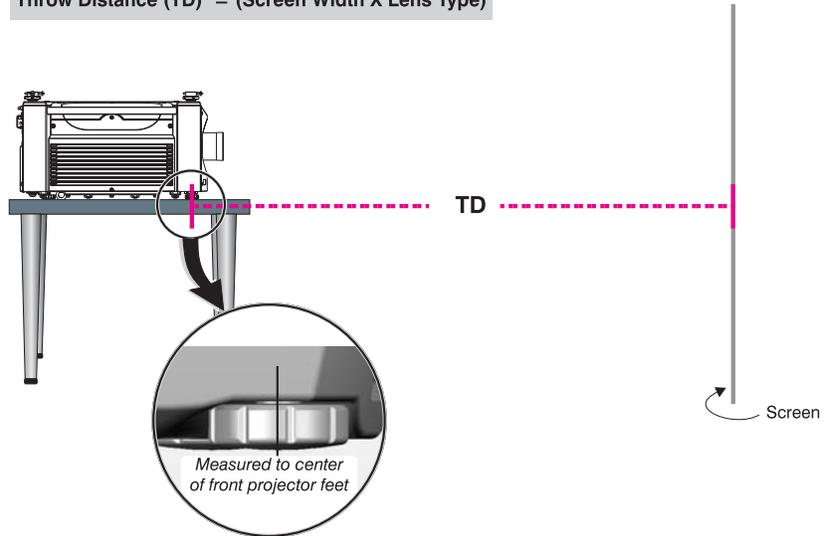

Figure 2.19. Estimating Throw Distance (SEE APPENDIX D)
For any installation, an accurate throw distance (TD) must be determined in order for the image to be of the right size for your screen—the farther the projector is from the screen, the larger the image. Throw distance is the distance between the projector’s front feet axes and the screen (Figure 2.19), and is roughly equal to the horizontal width of the screen multiplied by the throw ratio of the installed lens. Once you know your screen size and lens, you can estimate throw distance needed. For example:
- Throw Distance (TD) = **10** feet x **0.7** = **7** feet